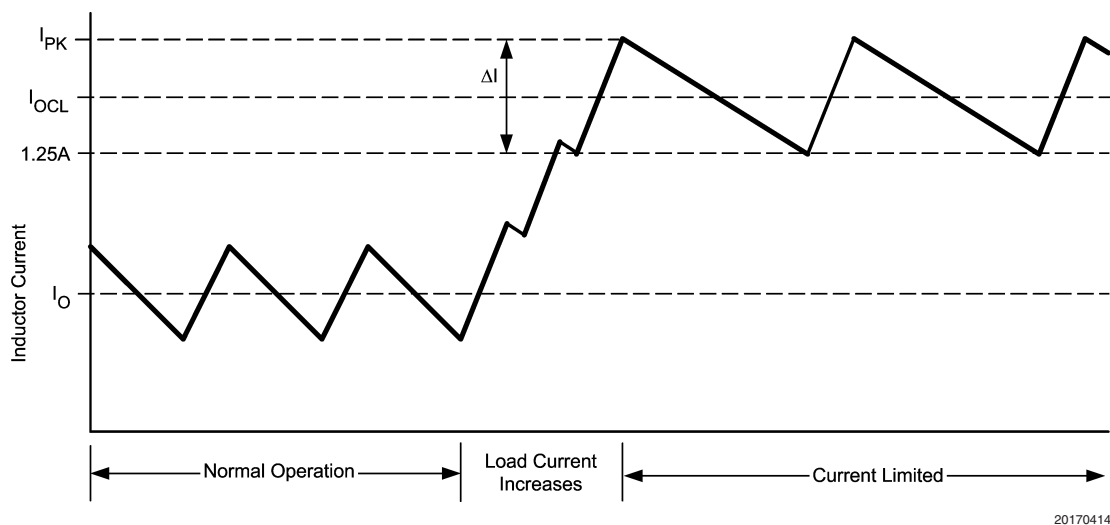

FIGURE 7. Inductor Current - Current Limit Operation
*Figure 7* illustrates the inductor current waveform. During normal operation the load current is  $I_O$ , the average of the ripple waveform. When the load resistance decreases the current ratchets up until the lower peak reaches 1.25A. During the Current Limited portion of *Figure 7*, the current ramps down to 1.25A during each off-time, initiating the next on-time (assuming the voltage at FB is  $<2.5V$ ). During each on-time the current ramps up an amount equal to:
The lesser of Equations 9 and 10 is then used in Equation 8. If  $I_{OR(MAX2)}$  is used, the maximum  $V_{IN}$  is used in Equation 8. The next larger value should then be used for L1. If  $I_{OR(MIN1)}$  is used, the minimum  $V_{IN}$  is used in Equation 8. The next smaller value should then be used for L1. L1 must be rated for the peak value of the current waveform ( $I_{PK}$  in Figure 7).
**D1:** The important parameters are reverse recovery time and forward voltage. The reverse recovery time determines how long the reverse current surge lasts each time the buck switch is turned on. The forward voltage drop is significant in the event the output is short-circuited as it is mainly this diode's voltage (plus the voltage across the current limit sense resistor) which forces the inductor current to decrease during the off-time. For this reason, a higher voltage is better, although that affects efficiency. A reverse recovery time of  $\approx 30$  ns, and a forward voltage drop of  $\approx 0.75V$  are preferred. The reverse leakage specification is important as that can significantly affect efficiency. D1's reverse voltage rating must be at least as great as the maximum  $V_{IN}$ , and its current rating must equal or exceed  $I_{PK}$  Figure 7.